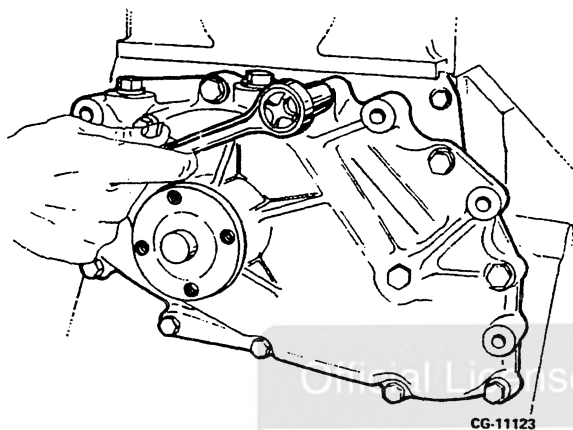

Figure 7.7. Water Pump Removal
5. Remove the 14 bolts and washers which secure the water pump to the front plate and crankcase. Refer to **Figure 7.7**. Note the location of the different bolt lengths. Remove the gasket and discard.